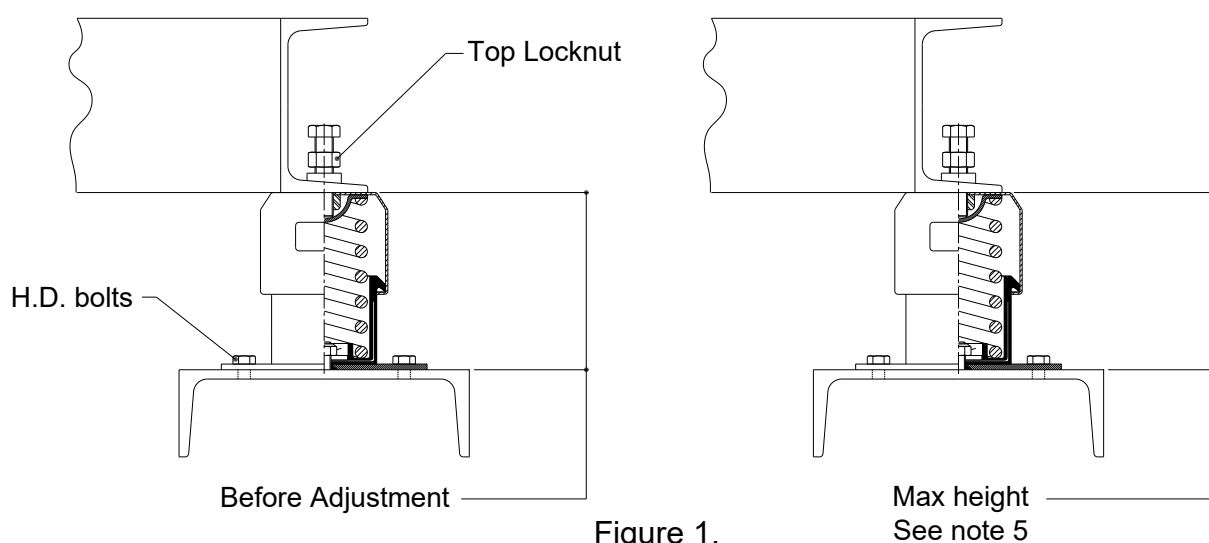

Figure 1.
5. Tighten the adjustment screw after initial deflection to raise the upper spring cover until desired height of isolator is achieved or the machine is level. See Figure 1.